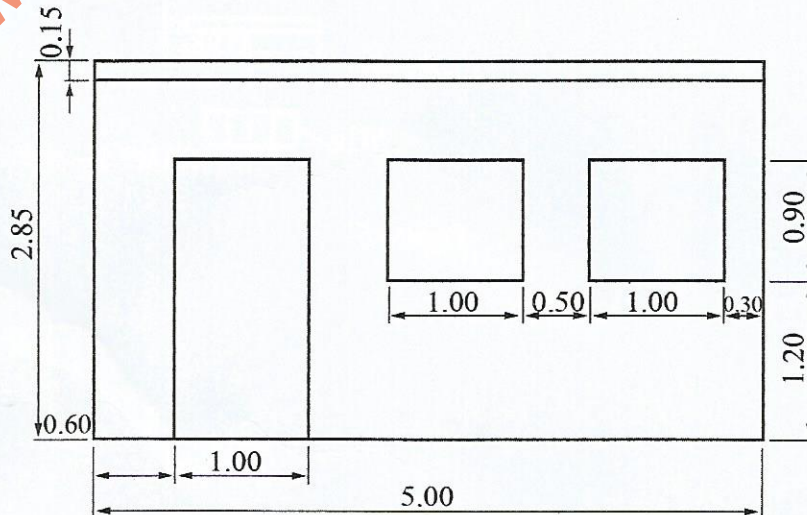

Figure 7
13. **Figure 7** shows the front view of a house. Construct a diagonal scale in which 20 mm represent 1 m to read up to 5 m.